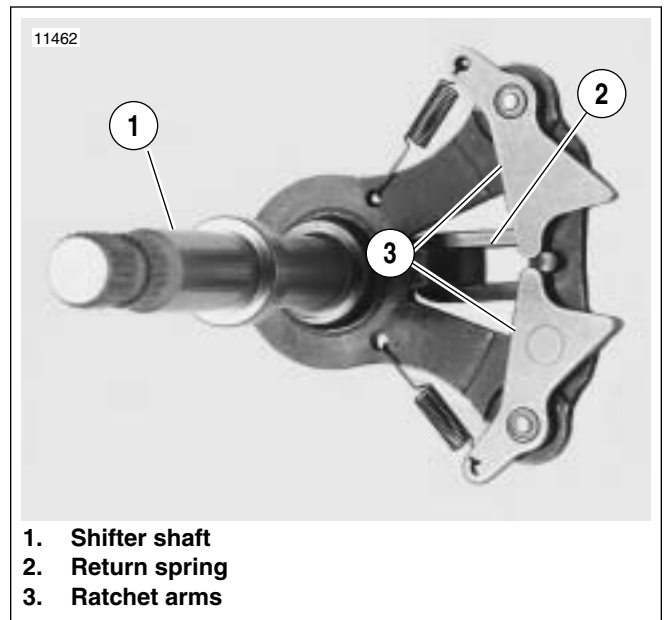

Figure 6-50. Shifter Shaft Assembly
12. See Figure 6-50. Depress ratchet arms (3) in order to clear the shifter drum and remove shifter shaft assembly from left crankcase half.